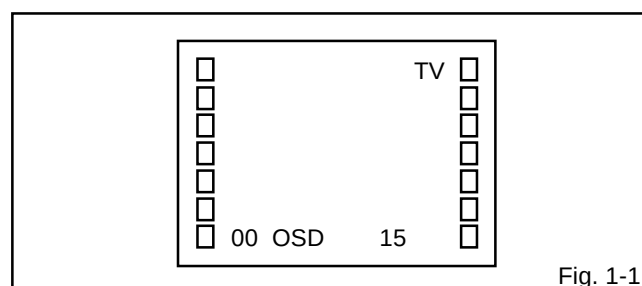

Fig. 1-1
2. Press the VOL. DOWN button on the set and the Channel button **(9)** on the remote control simultaneously to appear the adjustment mode on the screen as shown in **Fig. 1-1**.
7. Activate the adjustment mode display of **Fig. 1-1** and press the channel button **(03)** on the remote control to select "VIF VCO".
3. Activate the adjustment mode display of **Fig. 1-1** and press the channel button **(02)** on the remote control to select "RF AGC DELAY".